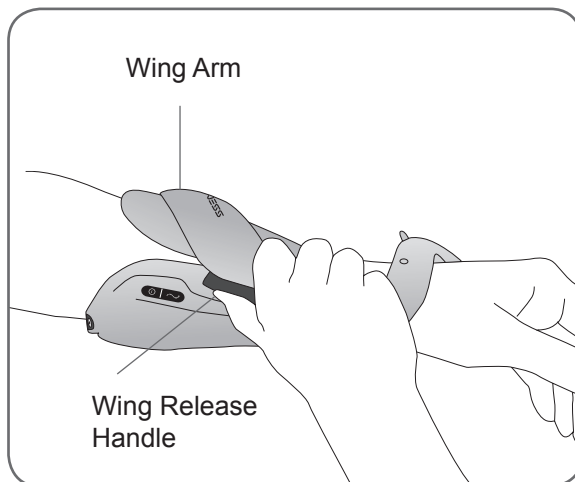

Figure 10-2: Opening the extensor wing.
3. Pinch the wing release handle and wing arm together and open the extensor wing. See Figure 10-2.